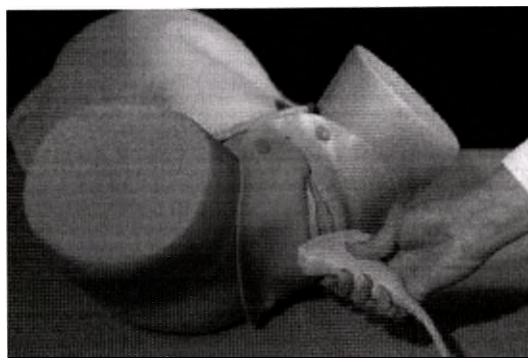

Figure 20: Position of the probe for the performance of transversal translabial ultrasound scans.
To monitor the rotation of the fetus head around its axis keep the probe in translabial position and turn it transversely (see Figure 20) of about 90° counterclockwise with respect to the previous longitudinal position (so as to bring the indicator to the right leg of the parturient). In this case, the anatomical reference landmarks to identify will be: the maternal pubic symphysis, the fetal head and the interhemispheric midline (see Figure 21).
3. Place the probe in translabial position by turning it transversely of about 90° (see Figure 20) counterclockwise with respect to the longitudinal position (in order to have the indicator facing toward the right leg of the parturient), moving down and simultaneously applying a greater pressure with the probe on the perineum;